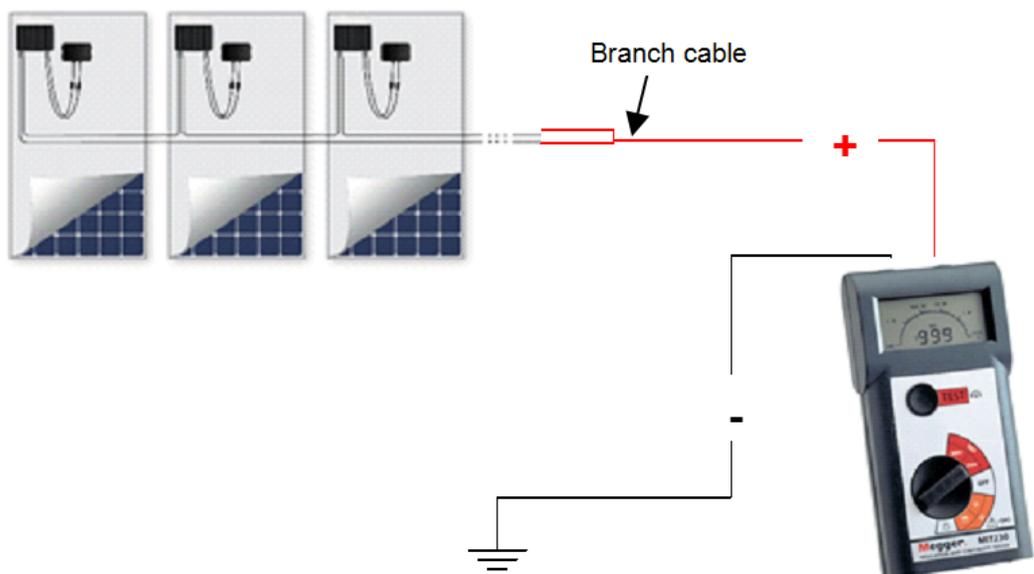

Figure 2: Connecting the insulation tester to the PV string
4. Test the string resistance using the insulation tester (Figure 2):